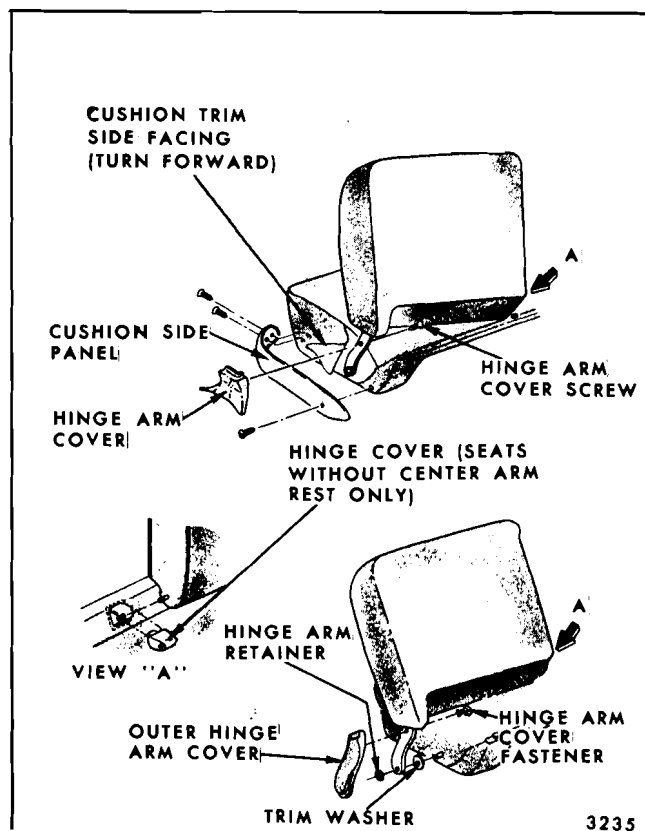

Fig. 15-28—Seat Back Removal - Two-Door Styles
1. a. On seat with seat cushion side panel, remove side panel and detach seat cushion trim sufficiently to expose outer hinge pin and retainer (Fig. 15-28).
- b. On seats with outer hinge arm cover, remove screw or detach fastener securing cover and remove cover (Fig. 15-28).
2. Using a flat-bladed tool carefully remove retainer, securing seat back outer arm to hinge pin (Fig. 15-28).